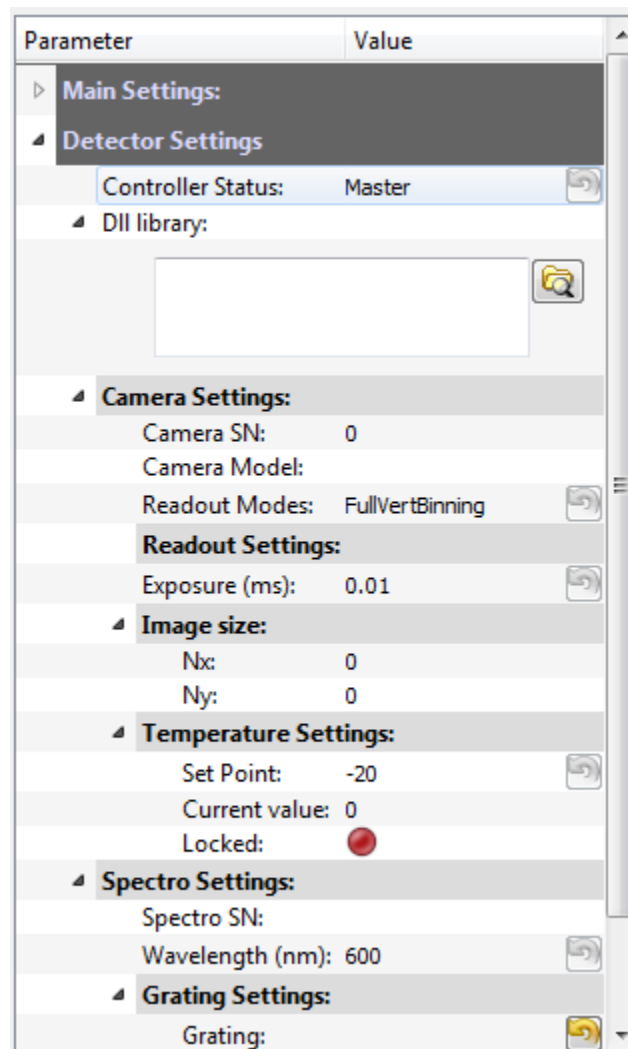

Fig. 7.98: Typical hardware settings represented as a tree structure (here from the `daq_2Dviewer_AndorCCD` plugin)
An important feature similar for all modules is the layout as a tree structure of all the hardware parameters. These settings will appear on the UI as a tree of parameters with a title and different types, see Fig. 7.98. On the module side, they will be instantiated as a list of dictionaries and later exist in the object `self.settings`. This object inherits from the `Parameter` object defined in `pyqtgraph`.
Here is an example of such a list of dictionaries corresponding to Fig. 7.98:
- `group` : “camera settings” on Fig. 7.98 is of type group
- `list` : “Readout Modes” Fig. 7.98 is a combo box